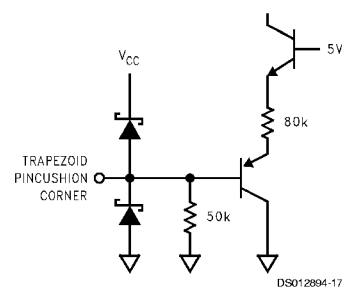

FIGURE 11.
**Pin 8. TRAPEZOID:** A 0V to 4V DC voltage applied to this pin adjusts the polarity and the amount of linear sawtooth component (Trapezoid Correction) in the E-W OUT output. At approximately 2V, the amount is zero. A voltage above 2V sets a negative-sloped sawtooth output, increasing the voltage increases the sawtooth amplitude. A voltage below 2V sets a positive-sloped sawtooth output, decreasing the voltage increases the sawtooth amplitude. See *Figure 11* for the input schematic.
**Pin 9. CORNER:** A 0V to 4V DC voltage applied to this pin adjusts the polarity and the amount of 4th order parabolic component (Corner Correction) in the E-W OUT output. At approximately 2V, the amount is zero. A voltage above 2V sets a concave down 4th order output, increasing the voltage increases the 4th order amplitude. A voltage below 2V sets a concave up 4th order output, decreasing the voltage increases the 4th order amplitude. See *Figure 11* for the input schematic.
**Pin 10. PINCUSHION:** A 0V to 4V DC voltage applied to this pin adjusts the polarity and the amount of 2nd order parabolic component (Pincushion Correction) in the E-W OUT output. At approximately 2V, the amount is zero. A voltage above 2V sets a concave down 2nd order output, increasing the voltage increases the 2nd order amplitude. A voltage below 2V sets a concave up 2nd order output, decreasing the voltage increases the 2nd order amplitude. See *Figure 11* for the input schematic.